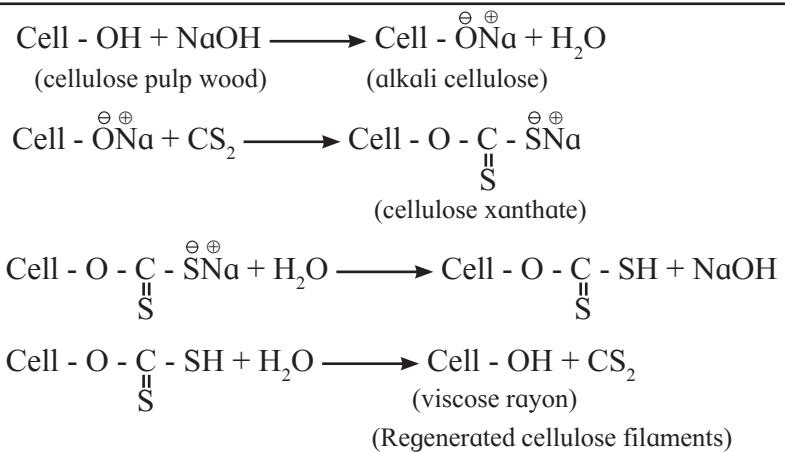

Fig. 15.7 : Formation of viscose rayon
15.3.10 Viscose rayon : Viscose rayon is a semisynthetic fibre which is regenerated cellulose. Cellulose in the form of wood pulp is transformed into viscose rayon. Cellulose is a linear polymer of glucose units and has molecular formula $(C_6H_{10}O_5)_n$. A modified representation of the molecular formula of cellulose Cell-OH, is used in the reactions involved in viscose formation, as shown in Fig. 15.7. Cellulose in the form of wood pulp is treated with concentrated NaOH solution to get fluffy alkali cellulose. It is then converted to xanthate by treating with carbon disulphide. On mixing with dilute NaOH it gives viscose solution which is extruded through spinnerettes